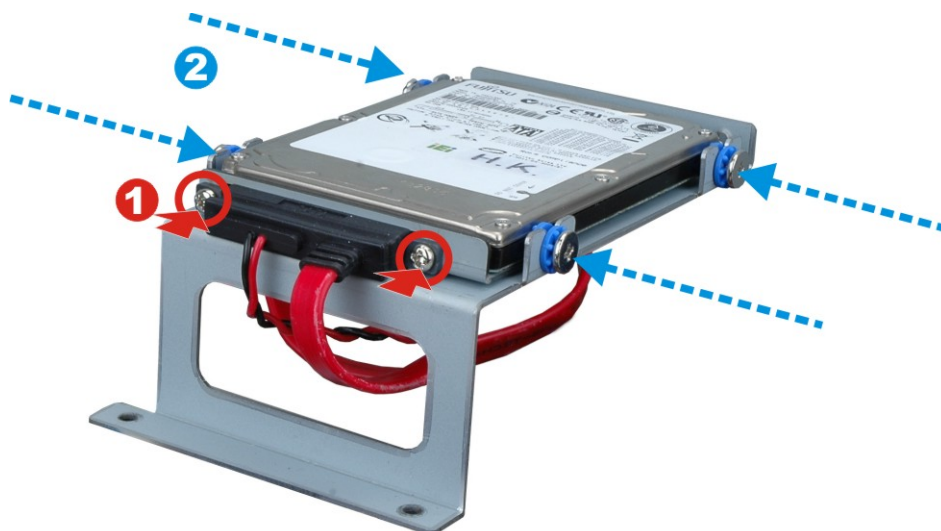

Figure 3-8: HDD Retention Screws
- Step 5:** Connect the SATA cable in the ECN-381B to the HDD. Secure the SATA cable with the HDD by fastening two round head screws (**Figure 3-8 ①**).
- Step 6:** Attach the HDD bracket to the HDD. Secure the HDD with the HDD bracket by fastening four retention screws (**Figure 3-8 ②**).